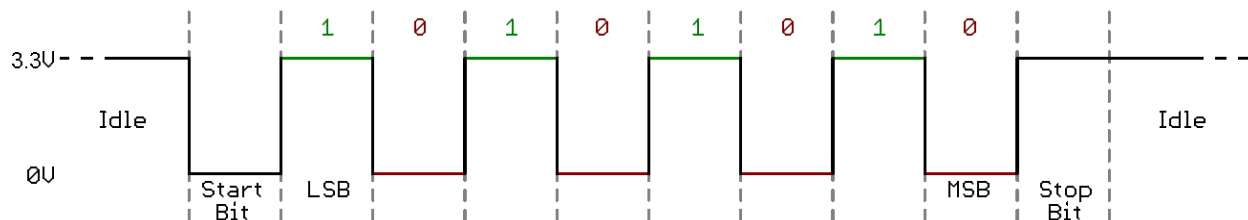

Figure 3. UART Data Frame
The anatomy of an 8N1 UART data frame is shown in Figure 3.
When not sending data, the UART transmit line (TX) is held high (3.3 V in our case because that's what the DE2-115 uses). When the UART begins to transmit a byte, it pulls the TX line low for one bit time. This is called the Start Bit. The Start Bit is followed by eight bits of data, starting with the least significant bit (LSB). In Figure 3 everything between the LSB and MSB inclusive can be either a 1 (high voltage level) or a 0 (0 voltage level), as dictated by the ASCII table (<http://www.asciitable.com/>). The UART holds the TX line high for one bit time following the MSB. This is called a Stop Bit. More than one Stop Bit can be specified, but we'll use only one Stop Bit. If more than one byte is being sent, the UART immediately follows the Stop Bit with the next byte's Start Bit (i.e., there would be no 'Idle' time as shown in Figure 3). Note that because of the Start and Stop Bits, the UART must transmit at least 10 bits to send 8 bits of actual data.